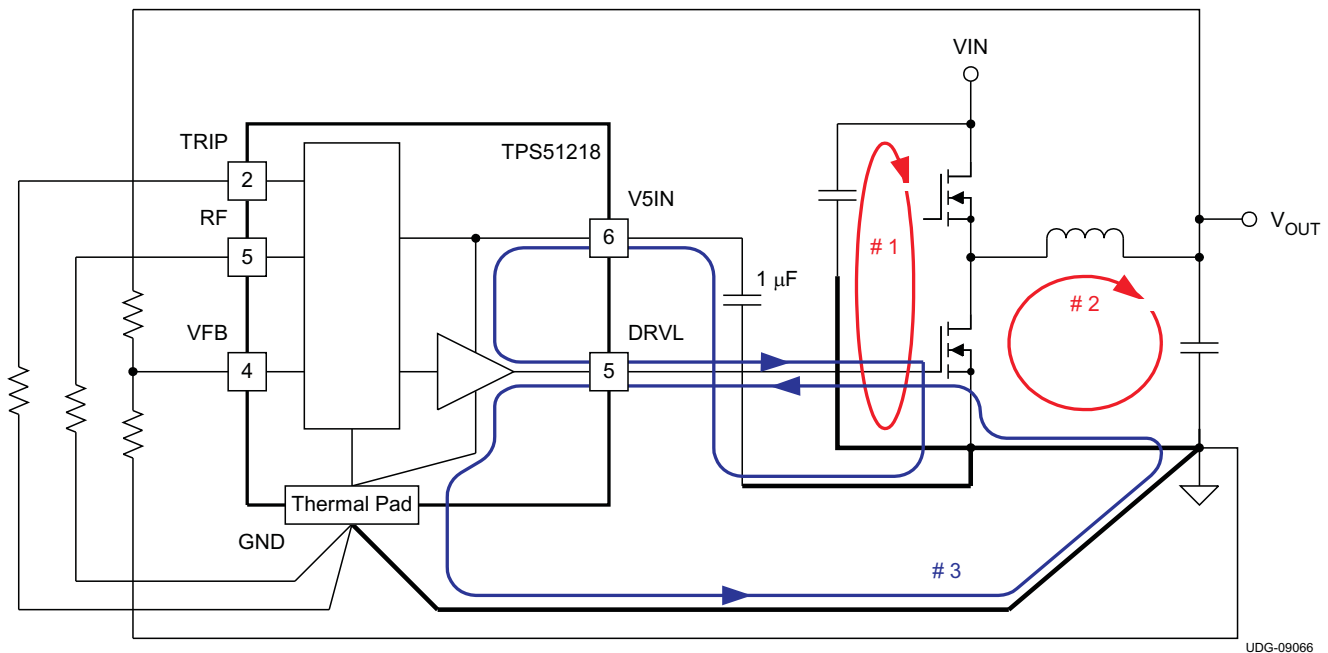

Figure 19. Ground System of DC/DC Converter Using the TPS51218
- The most important loop to minimize the area of is the path from the V_{IN} capacitor(s) through the high and low-side MOSFETs, and back to the capacitor(s) through ground. Connect the negative node of the V_{IN} capacitor(s) and the source of the low-side MOSFET at ground as close as possible. (Refer to loop #1 of Figure 19)
- The second important loop is the path from the low-side MOSFET through inductor and V_{OUT} capacitor(s), and back to source of the low-side MOSFET through ground. Connect source of the low-side MOSFET and negative node of V_{OUT} capacitor(s) at ground as close as possible. (Refer to loop #2 of Figure 19)
from gate of the low-side MOSFET through the gate driver and GND pad of the device, and back to source of the low-side MOSFET through ground. Connect negative node of V_{OUT} capacitor, source of the low-side MOSFET and GND pad of the device at ground as close as possible. (Refer to loop #3 of Figure 19)